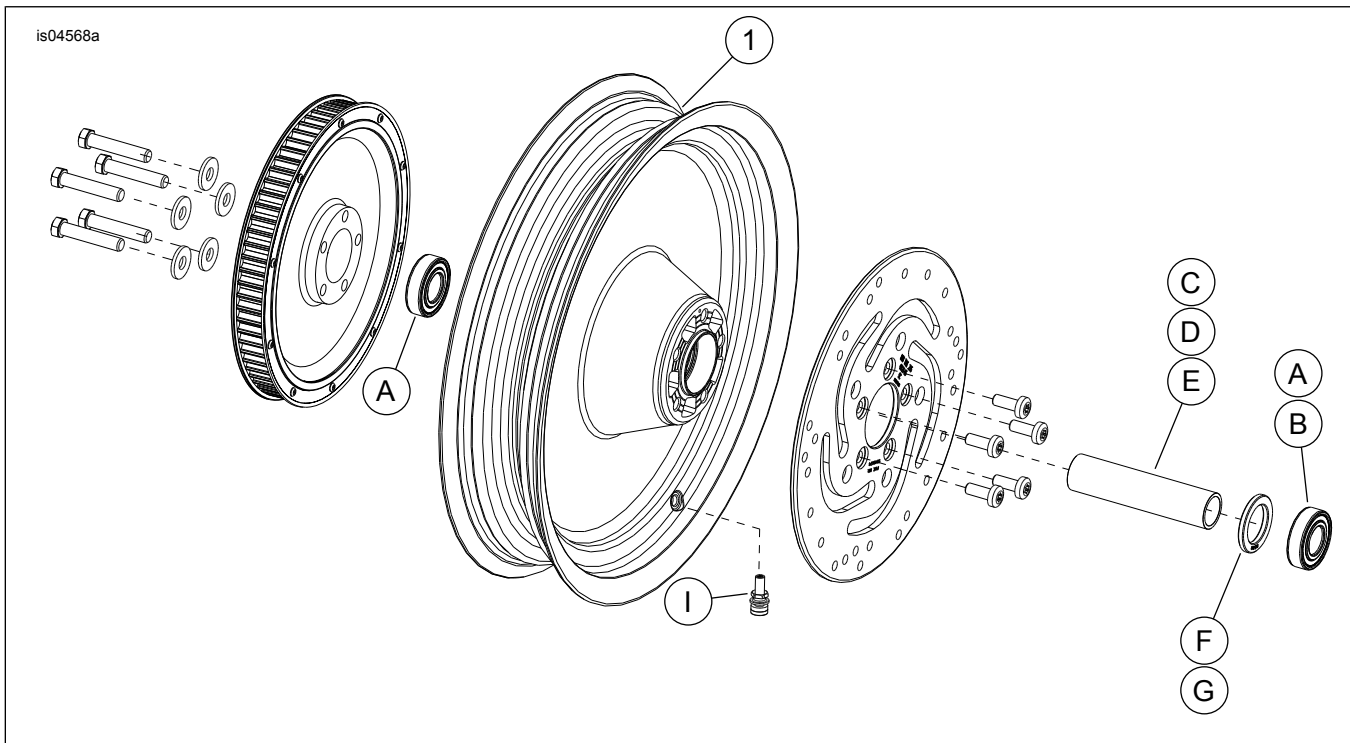

Figure 1. Service Parts: Rear Disc Wheels (16 Inch Shown)
See Figure 1 and Table 2
- See Figure 1. Install valve stem assembly (I) on wheel. Refer to TIRES in service manual.